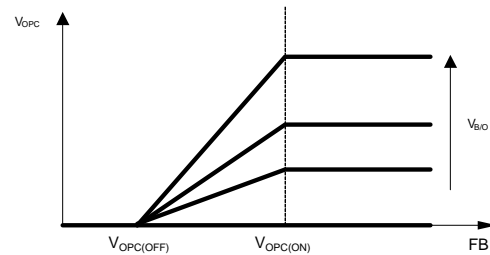

Figure 7: Compensation Current vs. FB and B/O Voltage
An offset voltage proportional to the B/O voltage is added to the sensing voltage. The B/O voltage is proportional to the input voltage. Figure 7 shows the compensation in relation to the voltage on FB and B/O. The V_{OPC} can be calculated using Equation (4):